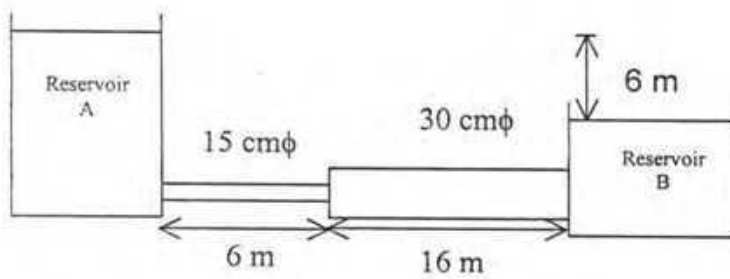

Figure 6
- c. Two reservoirs A & B shown in Figure 6 are connected by a pipe line consisting of two pipes, one of 15 cm diameter and length 6m and the other of diameter 30 cm and 16 m length. If the difference of water levels in the two reservoirs is 6 m, calculate the discharge. Take $f=0.04$ 10